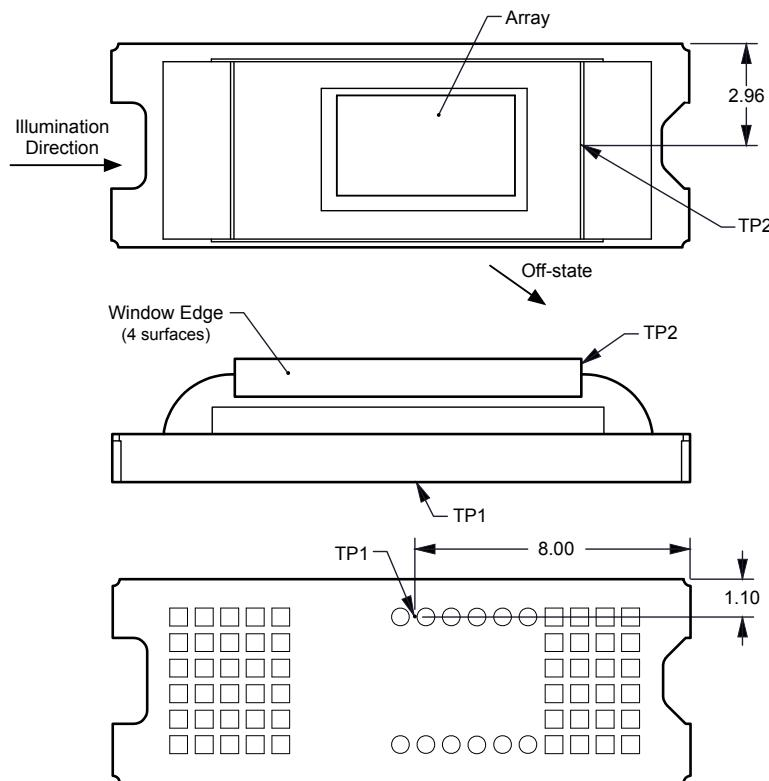

图 7-1. DMD Thermal Test Points
Micromirror array temperature cannot be measured directly, therefore it must be computed analytically from measurement points on the outside of the package, the package thermal resistance, the electrical power, and the illumination heat load. The relationship between array temperature and the reference ceramic temperature (thermal test point TP1 in 图 7-1) is provided by the following equations:
- $T_{CERAMIC}$ = Measured ceramic temperature (°C), TP1 location in 图 7-1
- Q_{ARRAY} = Total (electrical + absorbed) DMD power on array (W)
- $Q_{ELECTRICAL}$ = Nominal DMD electrical power dissipation (W)